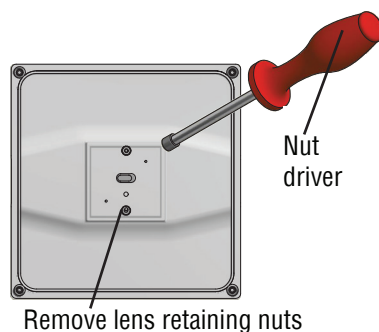

Figure 4
8. Light distribution can be changed by using a different lens. See page 3 and Figures 4 and 5.